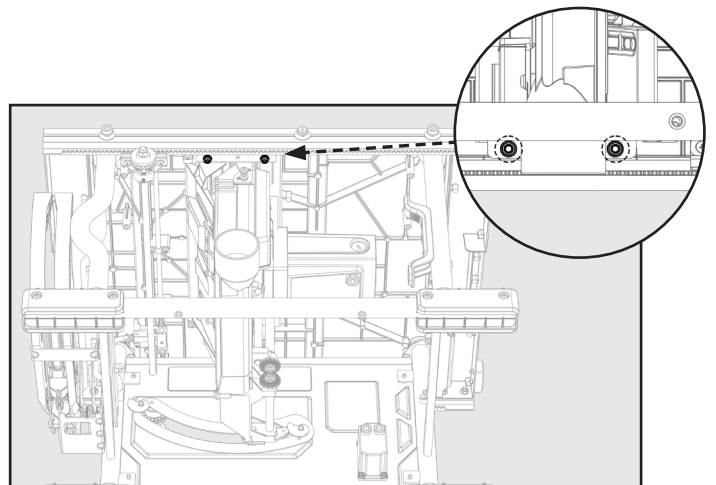

Figure 35
4. Using a 5mm Hex Wrench, loosen the rear trunnion bolts 1/2 turn found below the table top. See Figure 35.